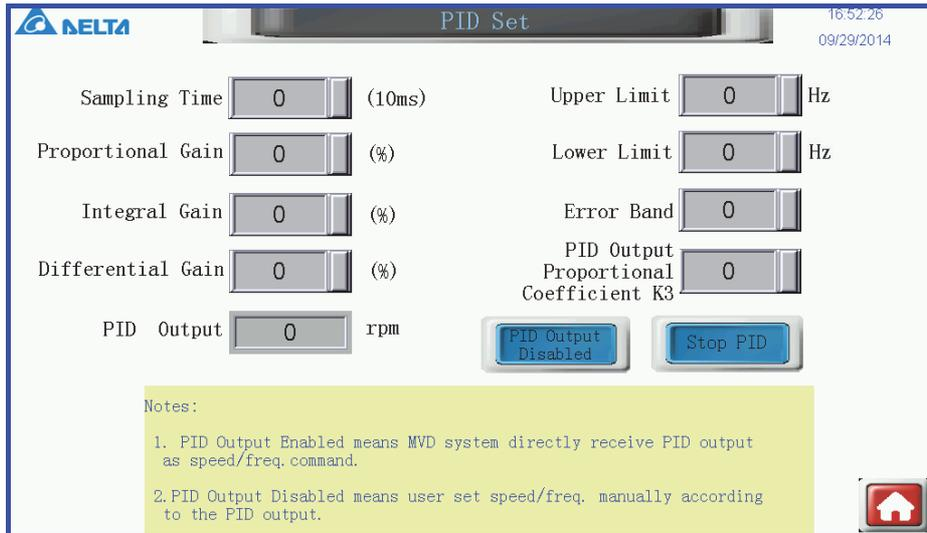

Fig. 3-4 PID setting interface
- ✧ Start PID: After all the PID parameter sets above are done, press this button to apply these PID functions, and another GUI page will show up after the implementation, just as shown as figure 3-4.